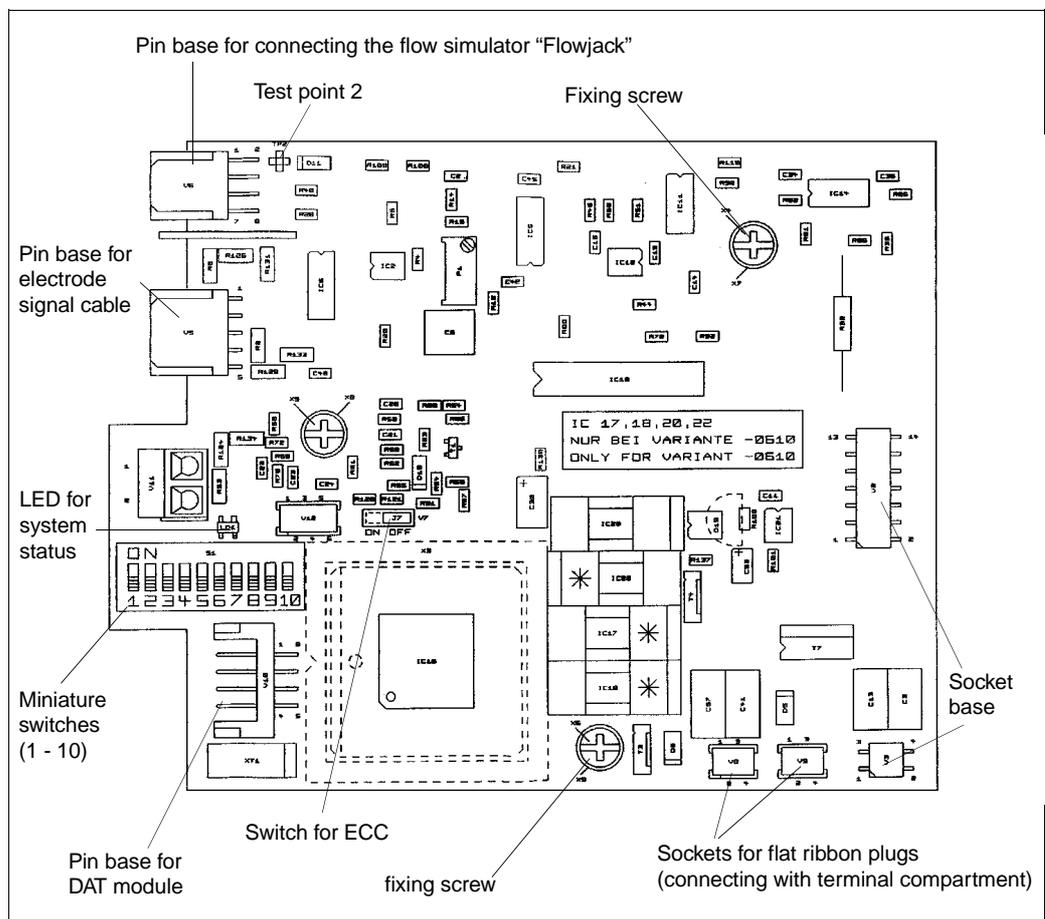

Fig. 46
- An LED is also situated on the amplifier board of the Promag 31 (see Fig. 46). This LED is always lit as long as the measuring system is operating correctly. In case of error the LED is flashing, thus indicating an error. If the LED is neither lit nor flashing there is a power supply breakdown.
6. Remove the cable board of the screened signal cable from the amplifier board (Fig. 46: V5).
9. Remove the ribbon cable plug (connection cable to the connection terminal area) from the amplifier board (Fig. 46: V8, V9).
11. If necessary, remove the DAT module from the pin strip (Fig. 46: V10) on the amplifier board.